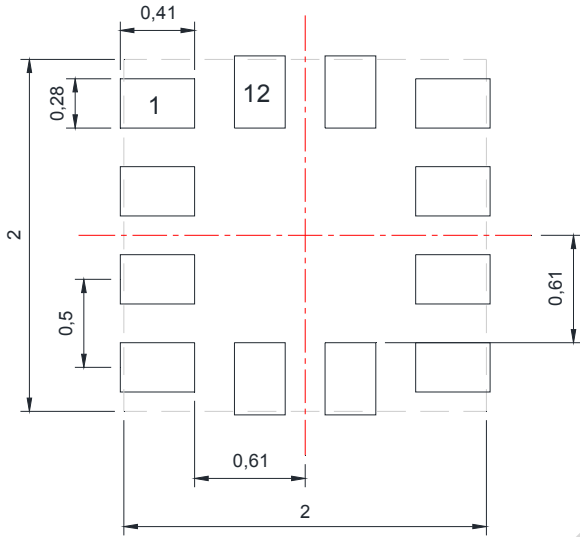

Figure 5: Recommended land pattern (unit: mm)
2. Recommended land pattern of PCB is shown in Figure 5.